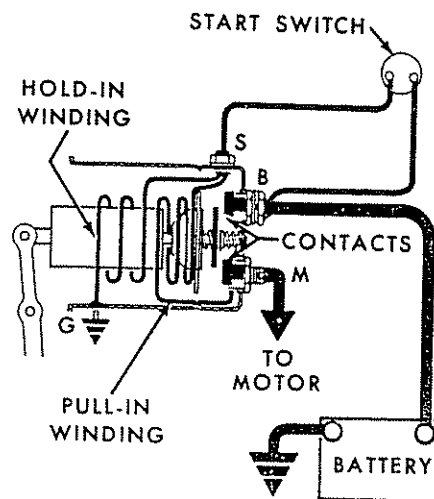
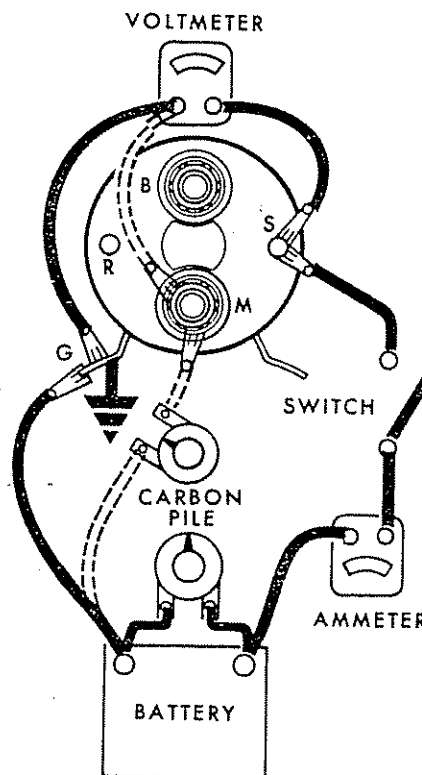

Figure 6—Basic solenoid circuit.
Figure 7—Connections for checking solenoid (note: terminal locations may vary).
D. Solenoid—A basic solenoid circuit is shown in Figure 6. Solenoids may differ in appearance, but can be checked electrically by connecting a battery of the specified voltage, a switch, and an ammeter to the two solenoid windings. With all leads disconnected from the solenoid, make test connections as shown to the solenoid switch (S or SW) terminal and to ground, (G) or to the second switch terminal, if present, to check the hold-in winding. (Fig. 7) Use the carbon pile across the battery to decrease the battery voltage to the value specified in Service Bulletins 1S-180, 1S-186, or 1S-187, and compare the ammeter reading with specifications. A high reading indicates a shorted or grounded hold-in winding, and a low reading excessive resist-
The purpose of the "R" terminal is to short out the ignition resistor during cranking, and thereby provide higher ignition coil output. (Fig. 7)